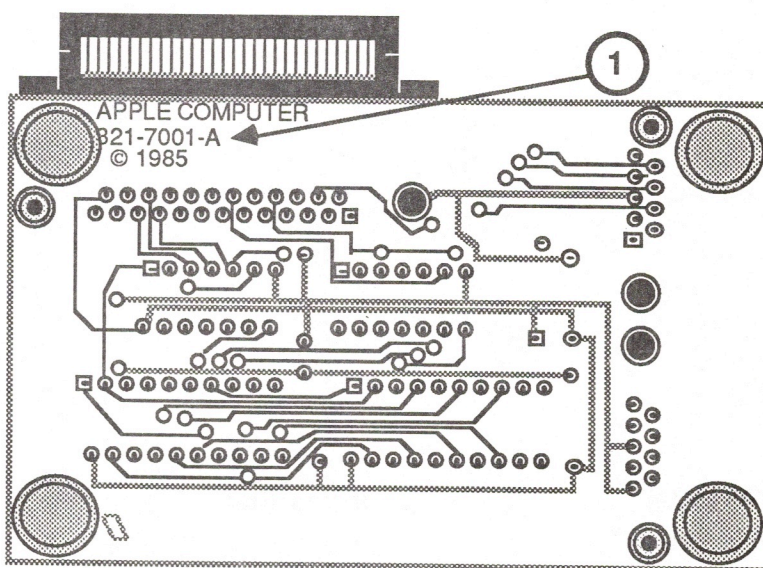

FIGURE 1
To determine if you have a new card, which will not need to be jumpered, look at the back of the card. If the jumper is included in the artwork, there will be an **A** instead of double zeros (00) at the end of the part number, which is located under the words "APPLE COMPUTER" (Figure 1, #1). **These new cards do not have to be jumpered.**